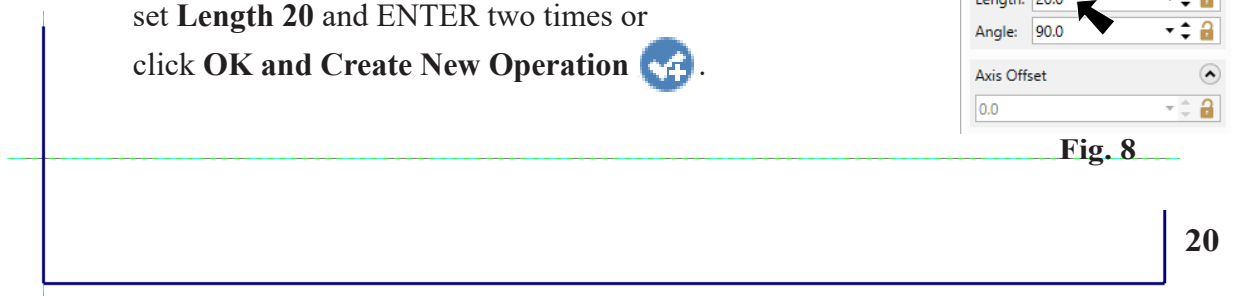

Fig. 7
Step 10. Sketch line **up from endpoint of line, Fig 7.**